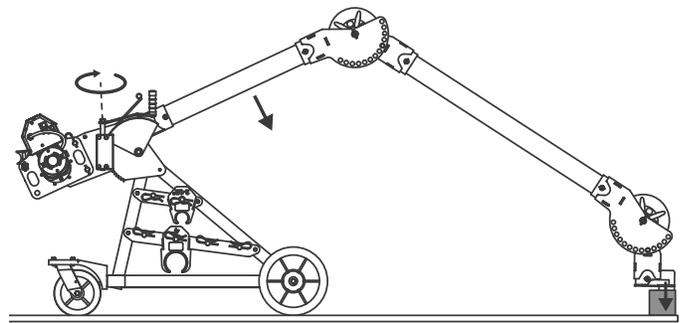

Figure 18: Adjust Back Boom to Position Nose in Conduit
11. Turn the crank counter-clockwise to lower nose into conduit opening. (Fig. 18)